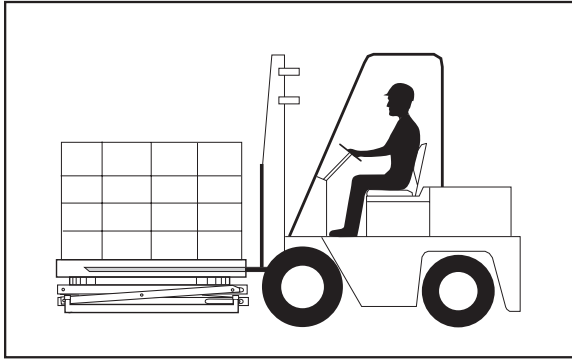

Fig. 7
1. Place the load on the lift, then lower the fork lift. Before removing the load, be sure the unit is carrying the weight, not the fork lift. See Fig. 7. Lower the load until the springs on the PalletPal are fully compressed. Be sure the forks on the lift are clear of the inside of the pallet.